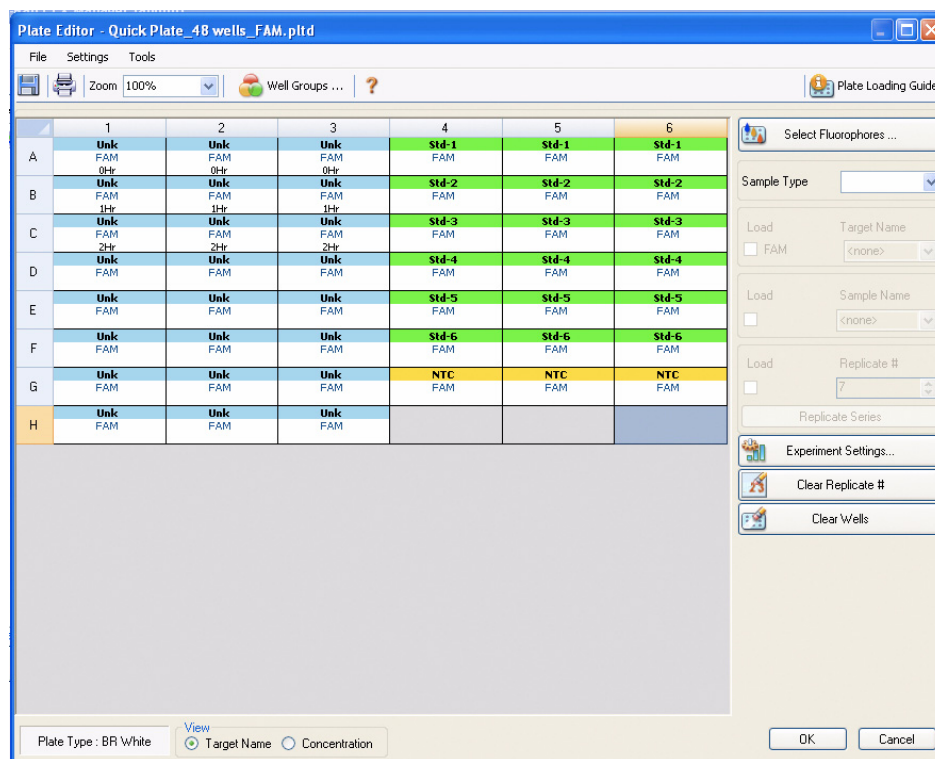

Figure 32. Plate Editor window.
To open the Plate Editor window (Figure 32), follow one of these options:
- **Plate view.** View the current well contents. Load wells by using the plate loading options on the right side of the plate view (Figure 32)
The Plate Editor example shows some loaded wells with unknowns (**Unk**) and standards (**Std**) (Figure 32). The bottom of the plate lists the plate type (**BR White**) and a selector to view **Target Name** or **Concentration** when wells are loaded with a standard sample type.